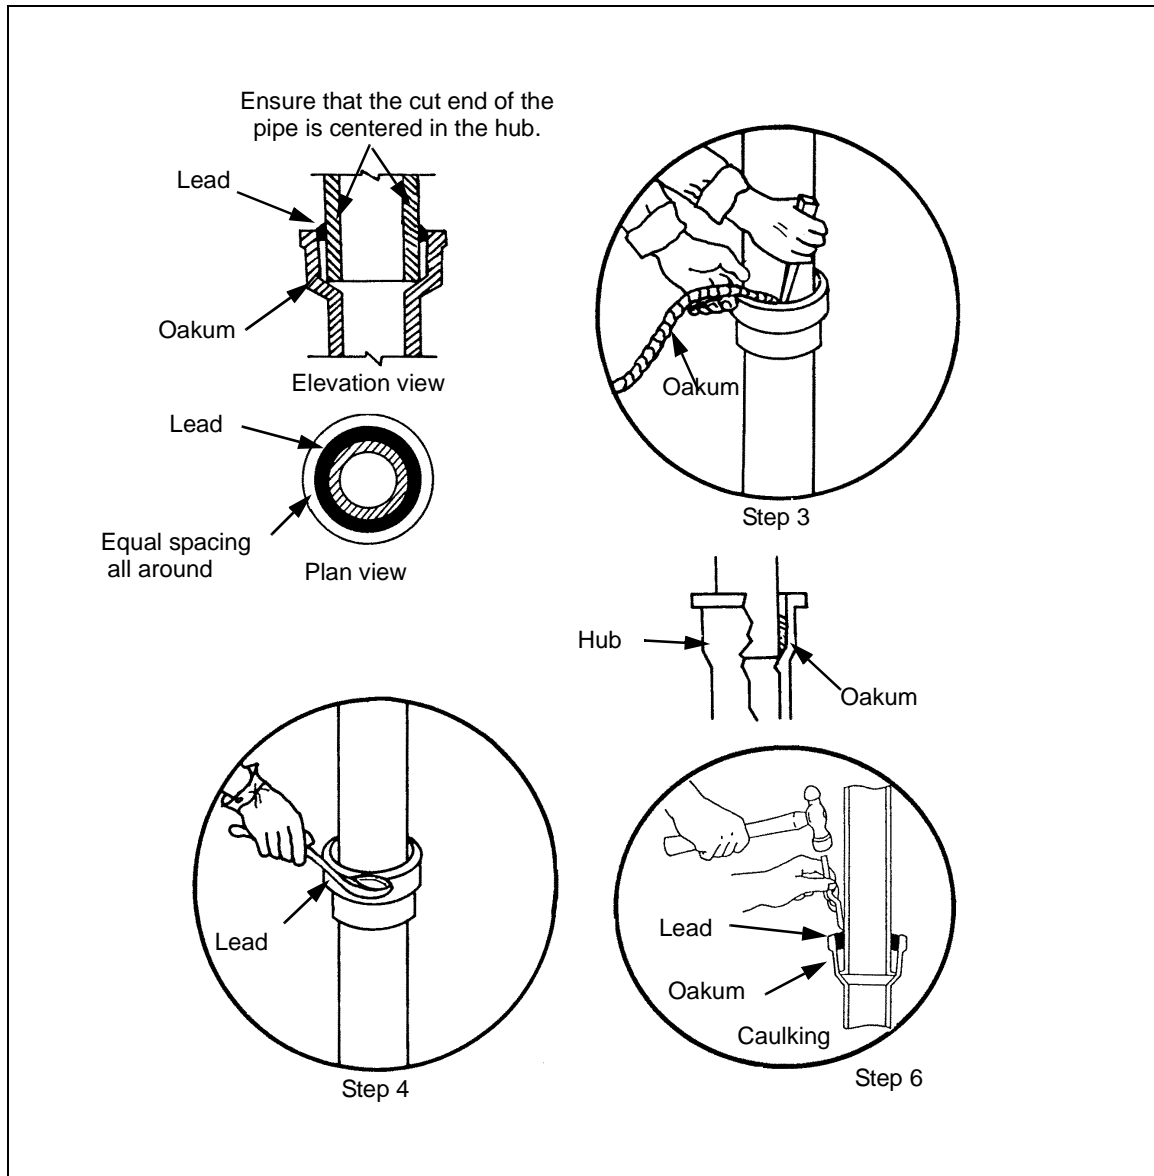

Figure 6-17. Vertical Lead Joint
6-42. **Vertical Lead Joint.** Use *Figure 6-17* and the following steps to make a joint.
Step 3. Pack strands of oakum into the hub completely around the pipe or fitting with a packing iron to within 1 inch of the hub's end (*Figure 6-17*).
Step 4. Pour hot molten lead carefully into the hub in one pour, using a plumber's ladle (Figure 6-17).
Step 6. Caulk the lead against the pipe with the inside caulking iron and then against the hub with the outside caulking iron, as shown in *Figure 6-17*, page 6-18. The joint is then complete and leakproof.